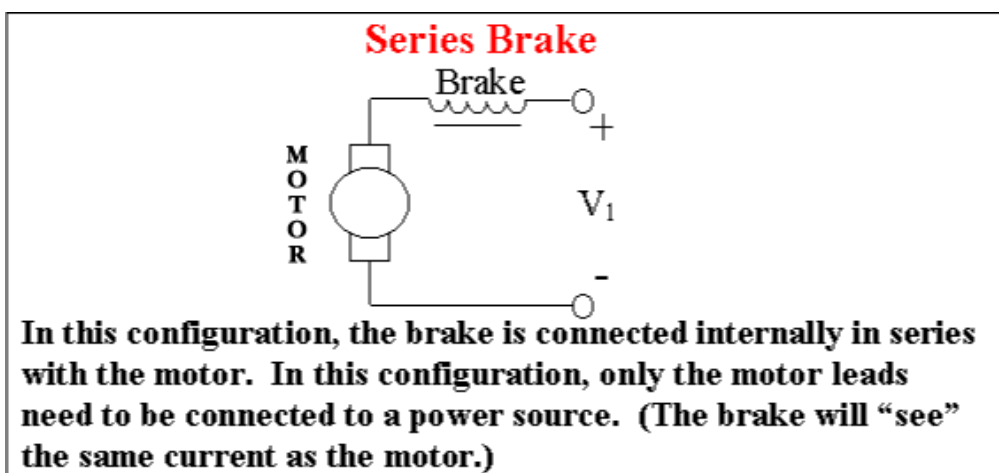

Figure 3
- b. Please see Figure 3: “Wiring Schematics: Series Brake on page 4 for configuration.